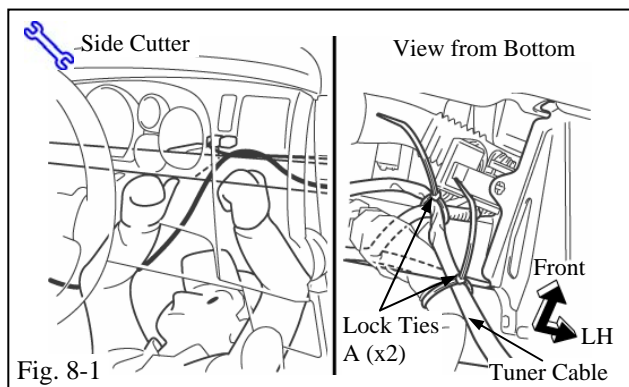

Fig. 8-1
(a) Secure the tuner cable with the two (2) lock ties A. (Fig. 8-1)
(1) Secure the vehicle wire harness to the tuner cable at the position near the black connector using a lock tie A as shown. (Fig. 8-1)
(2) Secure the tuner cable to the vehicle wire harness using a lock tie A as shown. (Fig. 8-1)